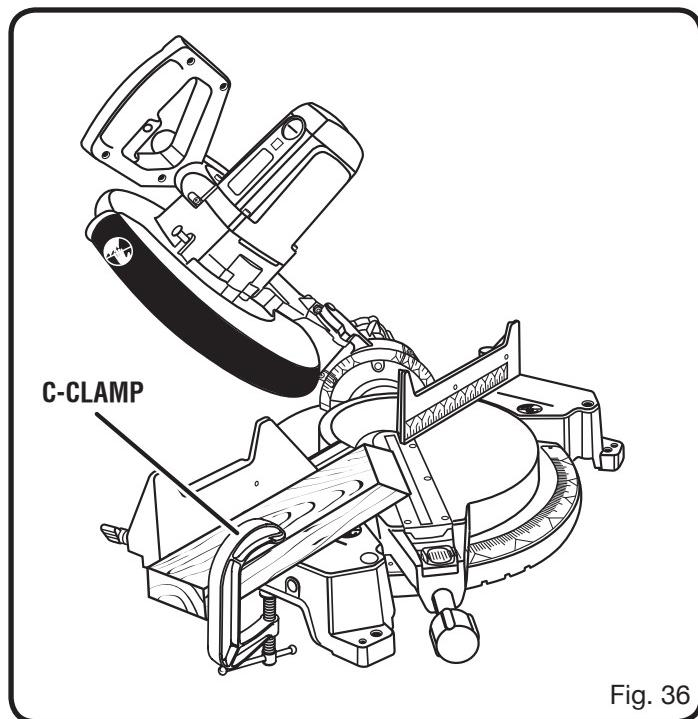

Fig. 36
*See Figure 36.*
- Slowly lower the blade into and through the workpiece. *See Figures 36 - 37.*